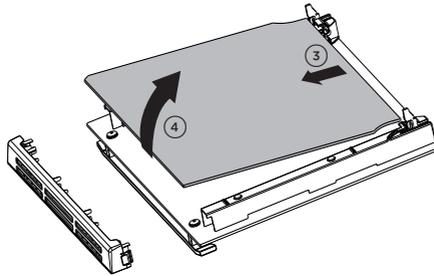

Fig. 7.22
- Gently lift and pull out the inner pane of glass by releasing it from the bottom retainers. Do not angle the pane too much as you may damage the glass (fig. 7.22).